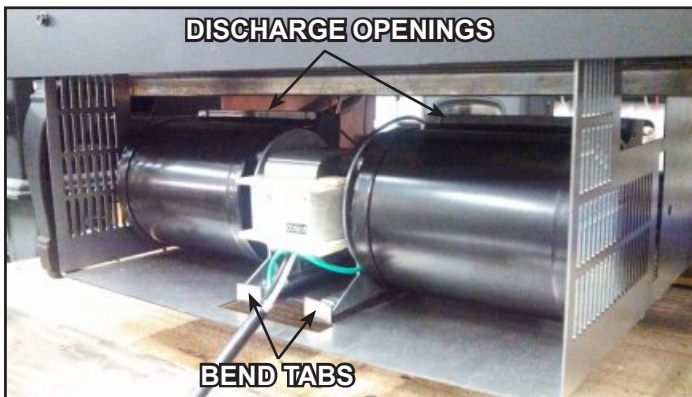

Figure 8.4 Fan Housing
2. From the rear of the appliance, slide the fan into the fan housing with the magnetic strips down and the rear discharge openings towards the front of the stove. (Note: The magnetic strips should straddle the gas line.) Bend tabs upward approximately 45 degrees. See Figure 8.4. It may be necessary to remove the on/off switch wires from the zip tie that holds the gas line as well as from the wire clasp located on the side of the fan housing in order to insert the fan without interference.
1. From the rear of the appliance, slide the fan into the fan housing with the magnetic strips down and the rear discharge openings towards the front of the stove. (Note: The magnetic strips should straddle the gas line.) Bend tabs upward approximately 45 degrees. See Figure 8.4. It may be necessary to remove the on/off switch wires from the zip tie that holds the gas line as well as from the wire clasp located on the side of the fan housing in order to insert the fan without interference.